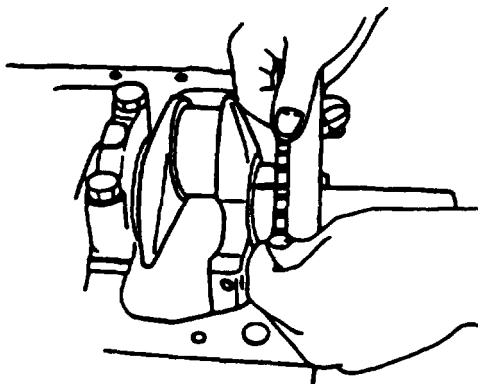

FIGURE 3-91. Comparing Bearing Gage
- (8) Compare width of bearing gage attached to either crankshaft or bearing against scale printed on bearing gage container, refer to FIGURE 3-91.
- (9) Standard clearance is 0.0007 to 0.0025 in. (0.018 to 0.065 mm), with a limit of 0.0047 in. (0.12 mm).
- (10) If measured clearance exceeds limit, perform clearance check in accordance with step f.